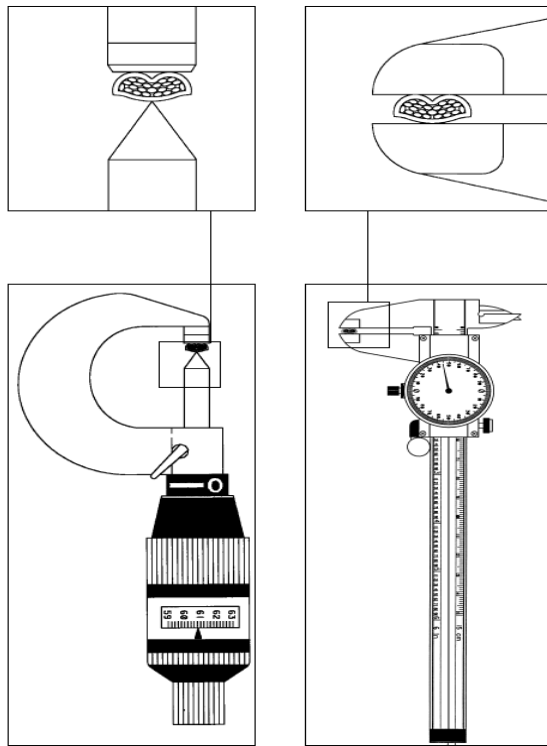

Figure 17
3. Place the flat blade of the crimp micrometer (Figure 17) across the center of the dual radii of the conductor crimp. Do not take the measurement near the conductor bell mouth.